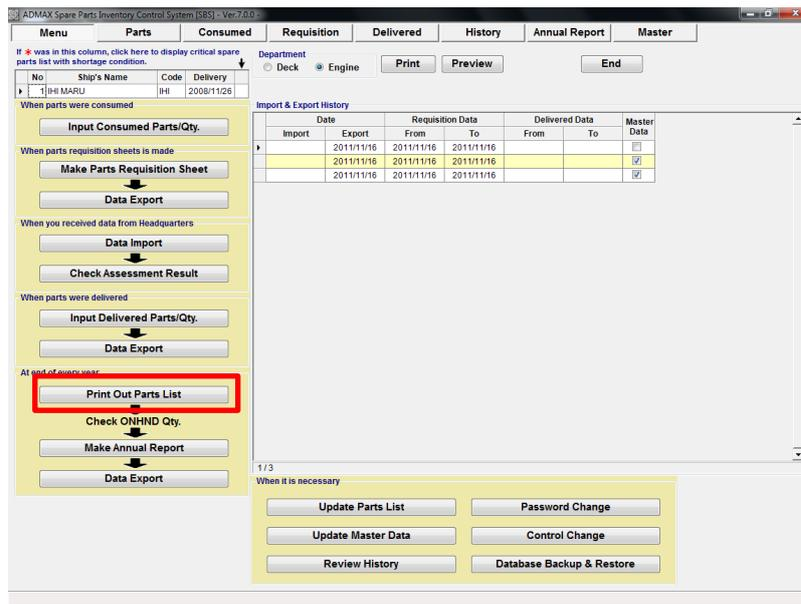

Fig 10.1 Menu
1. On the “Menu Screen” (Fig.10-1), select [Print out Parts List].
7. On the “Menu Screen”(Fig.10-1), select [Make Annual Report].